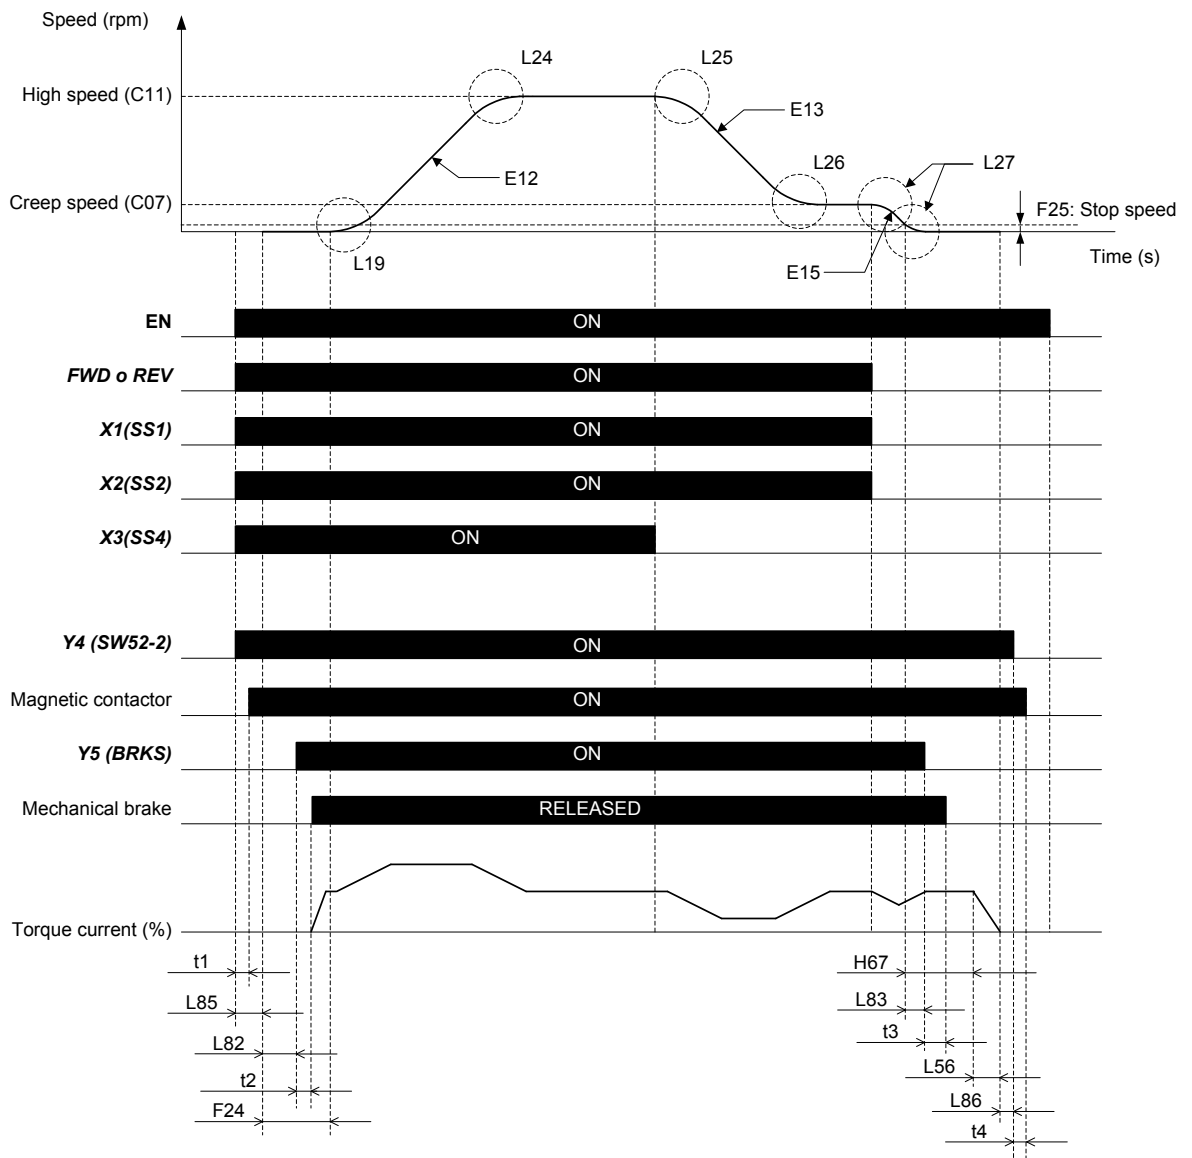

Figure 11.1: Closed loop application time and signals sequence diagram.
Figure 11.1 shows a complete time diagram and signals sequence in case of closed loop application. It shows a standard travel with a lift controlled by digital inputs with high and creep speed. In this case, induction motor and PMS motor are equivalent.
- ⌚ Figure 11.1 is a travel example where brake and main contactor signals are controlled by the inverter. If these signals are controlled by the lift controller, timing might differ.
12.Signal time diagram for open loop (IM)